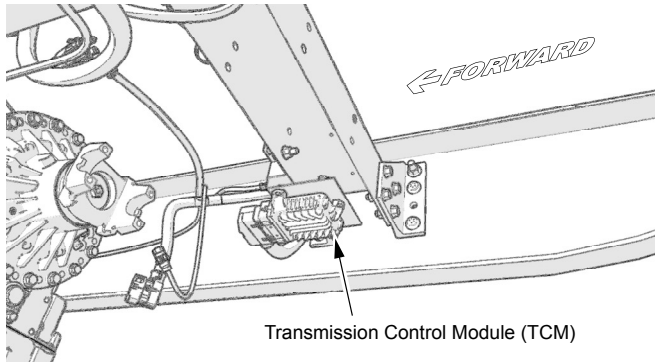

Figure 1, TCM Location
1. Locate the transmission control module (TCM) under the cross member (see Figure 1).